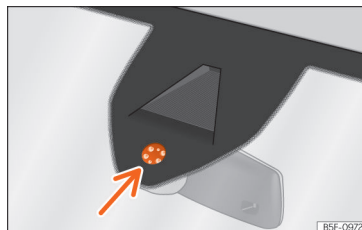

Fig. 138 Rain sensor sensitive surface
Possible causes of faults and mistaken readings on the sensitive surface »» Fig. 138 of the rain sensor include:
- Clean the sensitive surface of the rain sensor regularly and check the blades for damage »» Fig. 138 (arrow).